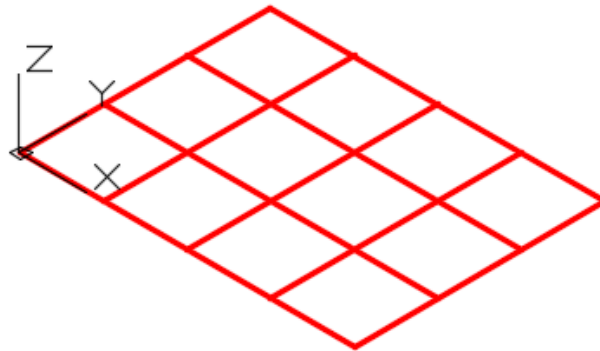

Figure Step 5
Step 5 Draw a 5 X 4 grid as shown in the figure. Draw the grid lines 1 inch apart along both the X and Y axis. (Figure Step 5)